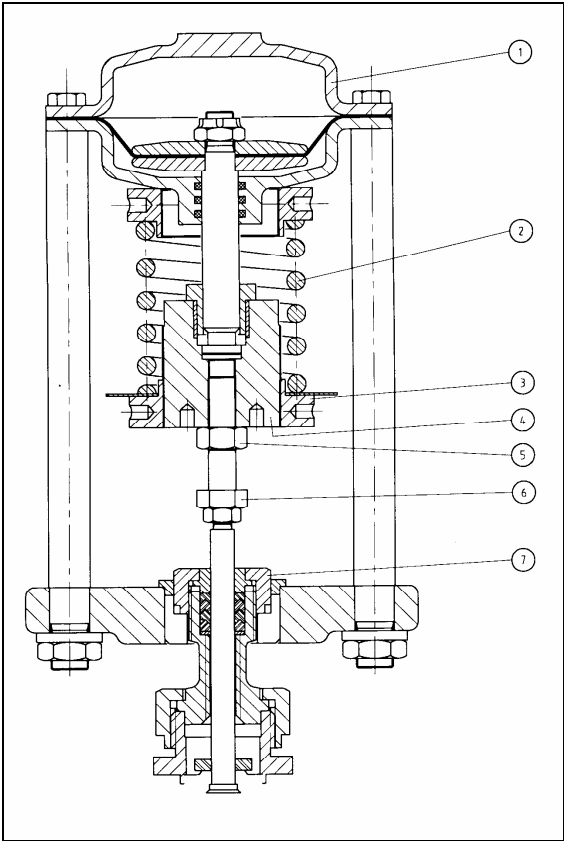

Figure 2; Cross section phase separator valve
5. Check whether the glands of the filling valve and exhaust valve are free of ice (see figure 2, position 7). When ice is visible, the gland must be slightly tightened. Turn with an angle of 5 degrees at a time.
The DeMaCo Holland bv phase separator is supplied in two pressure versions. The non-pressurised version of the phase separator does not need to be checked. The version with exhaust valve must be checked as described above. In case of a deviation of the set pressure, the procedure described below must be followed. Refer to figure 2 for position numbers.